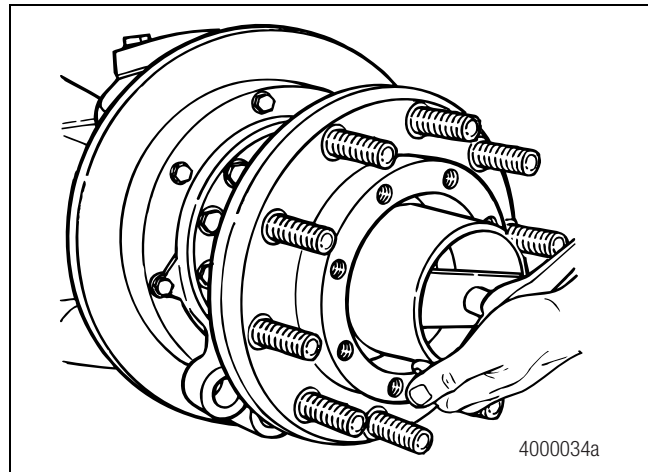

Figure 7.19
1. Use a torque wrench to tighten the adjusting nut to 100 lb-ft (136 N•m). Figure 7.19. **ⓘ**